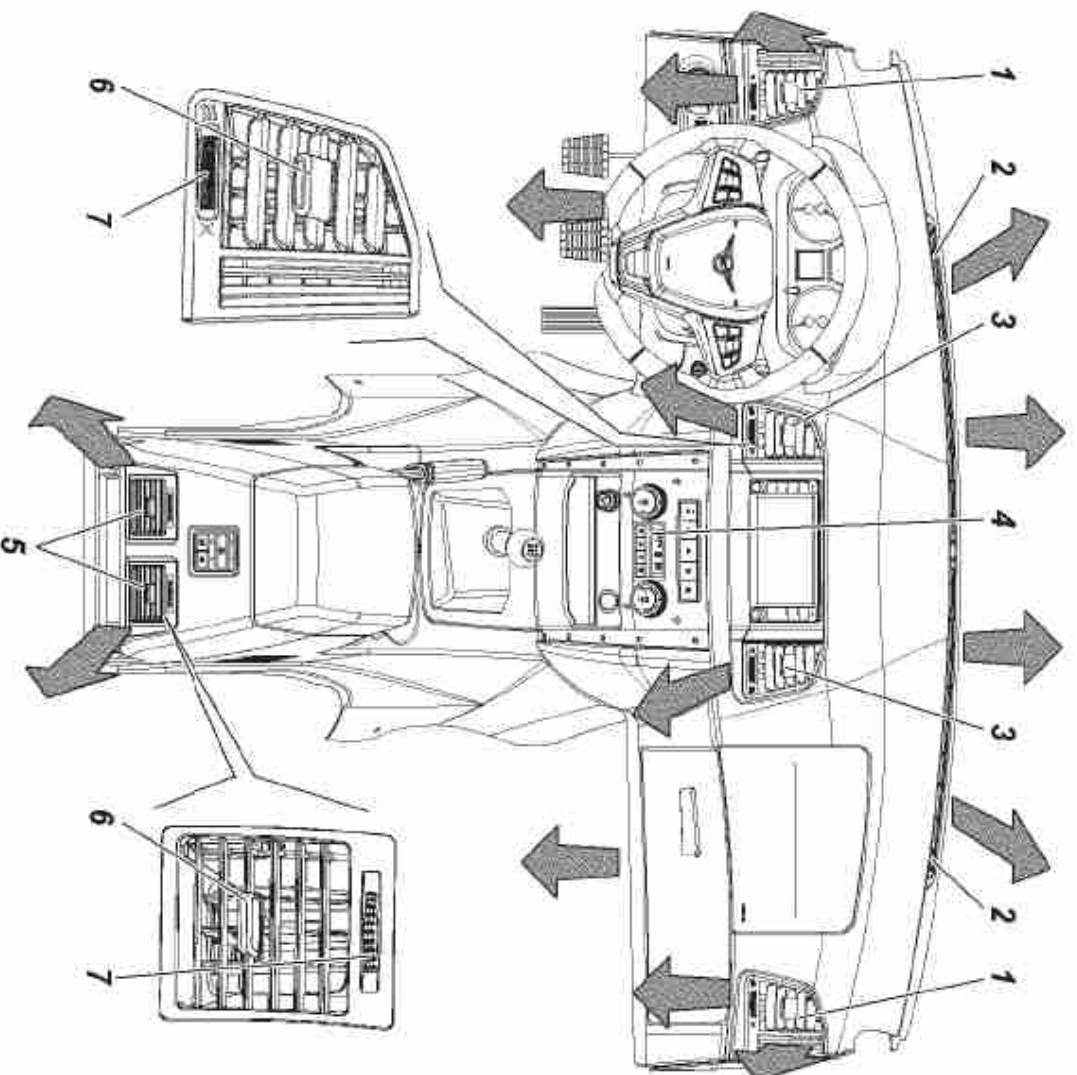

Fig. 3.20. Interior ventilation and heating systems control elements
Fig. 3.20 shows the interior ventilation and heating system control unit.
Direction of the air current can be changed via small levers 6 (Fig. 3.20) on the deflectors.
- 6 — case of the tunnel lining glove compartment; 7 — deflector (control elements on Fig. 3.20); 8 — deflector sealing; 9 — support; 10 — enclosed radiator and electric fan of the additional heater; 13 — valve with electric drive